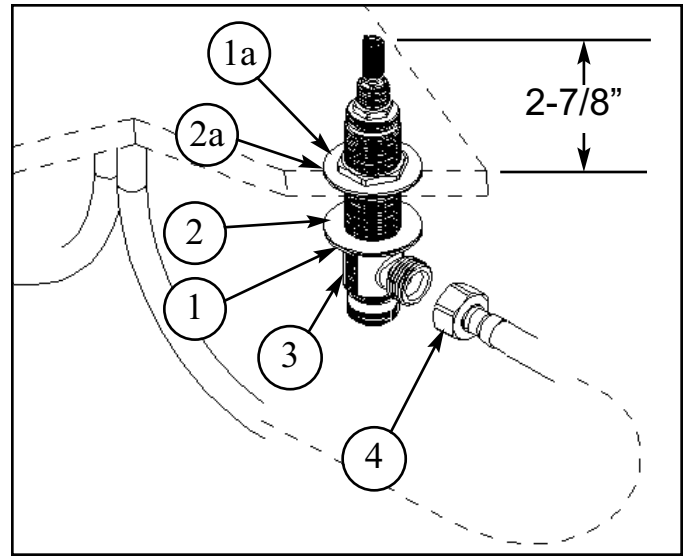

Figure 2
2. Place flange NUT (1) and fiber WASHER (2) onto valve BODY (3). Insert valve BODY (3) through sink hole from underside of sink. Valve BODY (3) should extend 2-7/8" above mounting surface. If necessary adjust lower flange NUT (1). Place fiber WASHER (2a) and flange NUT (1a) onto upper position of valve BODY (3). Set valve BODIES (3) so that their outlets are facing towards the center of the sink and tighten upper flange NUT (1a). See Figure 2.
3. Connect HOSE (4) to outlet of each valve BODY (3). Hand tighten and secure each HOSE (4) with a wrench 1/4 turn. See Figure 2.